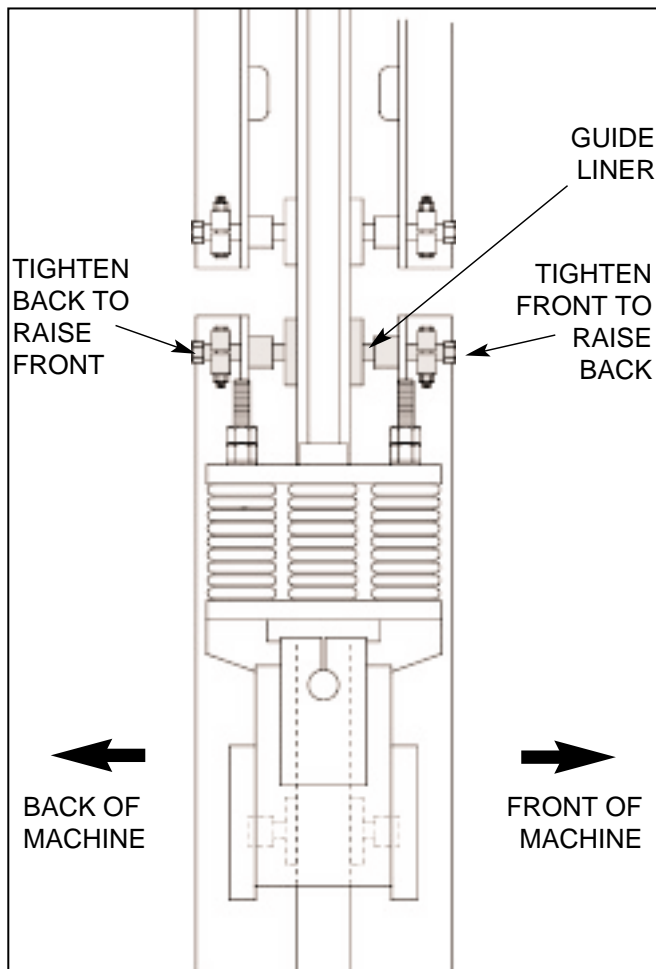

Figure 5.19 PALLET RECEIVER FRAME ADJUSTMENT.
5.5.12 If the dimension in front and back is not 5/8" [16mm], carry out adjustment by first checking clearance of bottom guide liners on both sides of the machine. If clearance is off, tighten front screw hand tight and then back off 1/4 of a turn balancing out both guide liner adjusting screws. These screws are located at the bottom of the pallet receiver frame at the slide shaft on both sides of the machine (see figure 5.19).